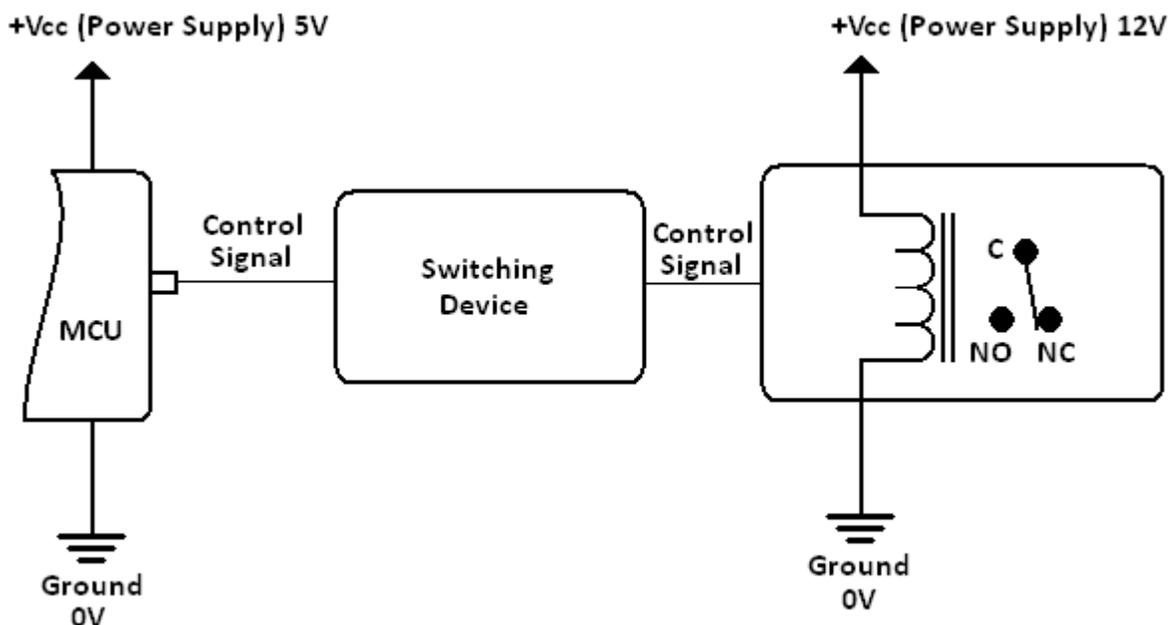

Figure 1.: A typical application of DC solid state switch
As a project designer, a person is concerned with the design aspect of a solid state switch; given the input & output parameters. A typical application can be of switching control of a DC 12V relay through a 5V microcontroller logic port pin as shown in figure 1. The switch remains on as long as control signal is present (i.e. the relay remains energized as long as control signal is available).
The *switching voltage* is the voltage of control signal. In the typical application considered in figure 1, it comes from a microcontroller and is usually 5V.
The *supply voltage (V)* is the voltage which is used to power up the load. This is different from the controller's supply voltage of 5V. In the application considered in figure 1, the load is a relay of 12V. Hence $V = 12V$ for that case. The load resistance R_L can be found out by measuring the resistance between the two leads of the load (example, relay coil) by ohmmeter / multimeter. The final expression of R_B is,
Taking example of figure 1,